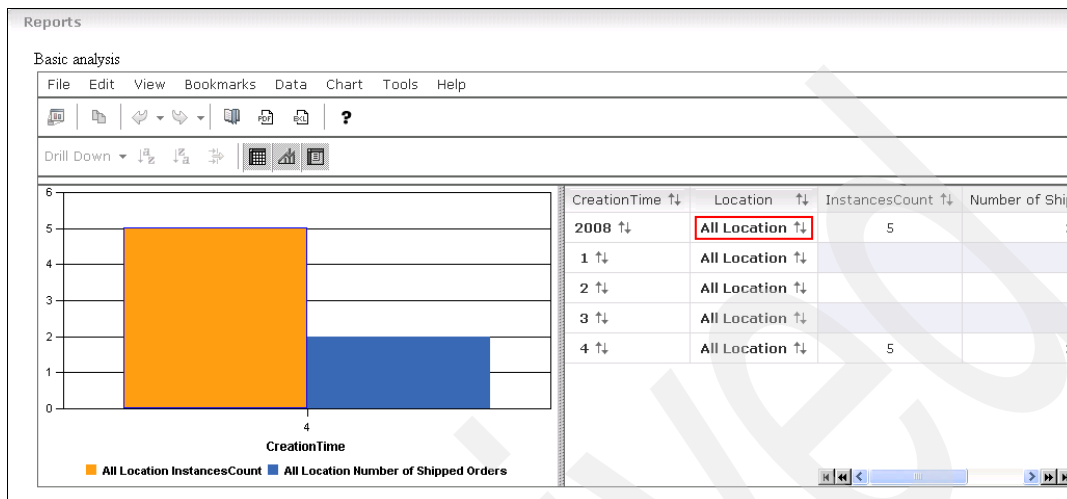

Figure 5-118 Reports view
- The Reports view shows the instances count based on the location relative to the creation time as shown in Figure 5-118. Double-click **All Location** to drill down by location.